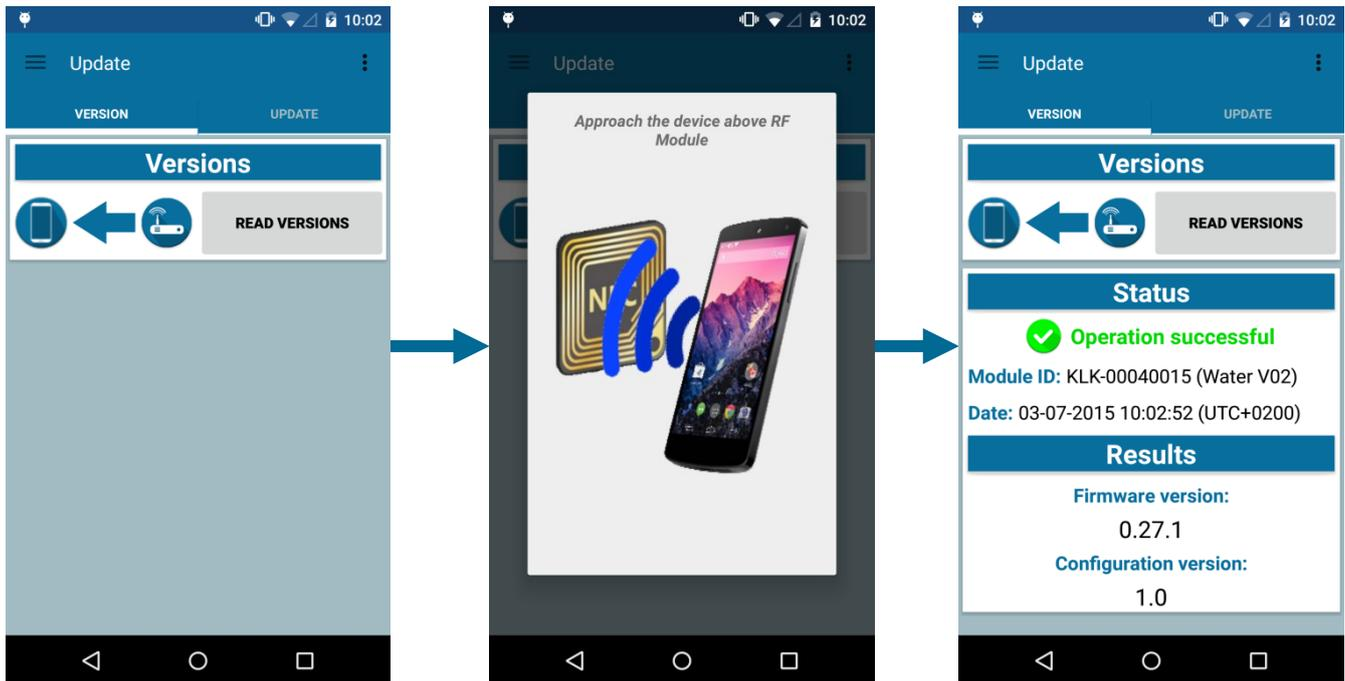

Figure 34: Update get version operation
- The current firmware and configuration versions are then displayed on the screen (see Figure 34).